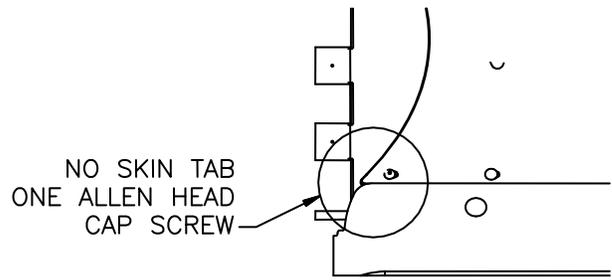

Figure 6. Fourth style Poly Power-V G10469
7. Fourth style Poly Power-V blade skins do not have a tab at the center of the plow. Formed Cutting Edges can be assembled to the plow without any modification. See Figure 6.